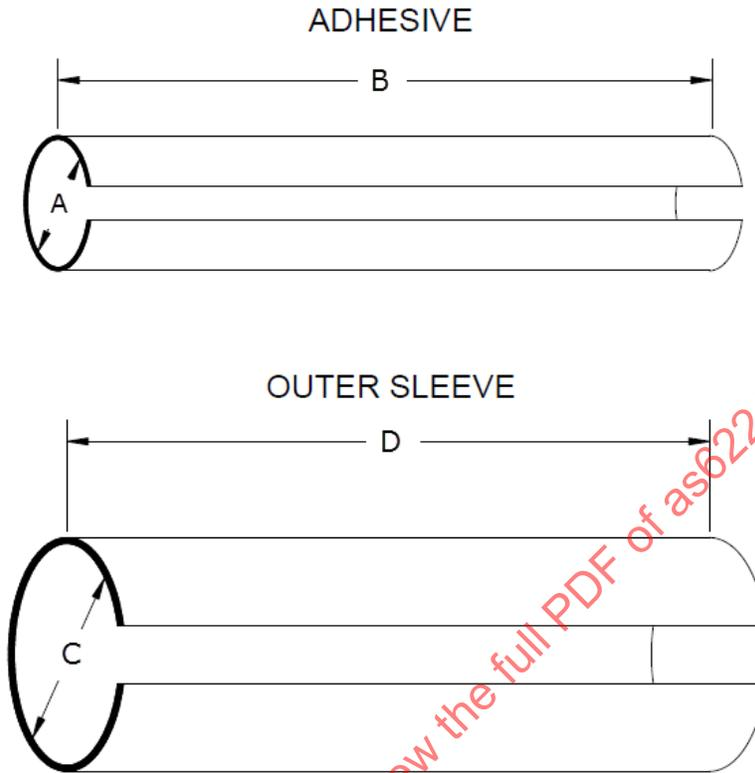

FIGURE 1 - REPAIR SLEEVE CONFIGURATION
- DESIGN: THE REPAIR SLEEVE SHALL BE DESIGNED IN ACCORDANCE WITH FIGURE 1 AND TABLE 1. DIMENSIONS ARE IN INCHES. METRIC EQUIVALENTS (TO THE NEAREST 0.01 MM) ARE GIVEN FOR GENERAL INFORMATION ONLY AND ARE BASED UPON 1 INCH = 25.4 MM. UNLESS OTHERWISE SPECIFIED, TOLERANCES ARE .005 (0.13 MM) FOR THREE PLACE DECIMALS AND .01 (0.25 MM) FOR TWO PLACE DECIMALS.